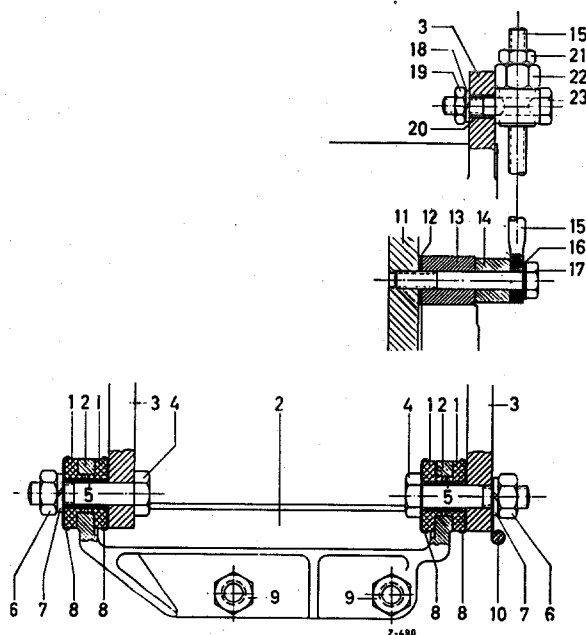

Fig. 01—4/22 a
9. Remove the standard generator support from the crankcase and replace by reinforced support (2), Part No. 121 155 05 35, (Fig. 01—4/22 a).
10. After fitting the rubber washer (1), the cup washer (8) and sleeve (5) to the support (2), insert the new 300 Watt generator from the front and fix with two Hexagon Screws M 10×45 DIN 931—8 G (4) (Fig. 01—4/22 a). Also fit the new ground lead (10), Part No. 181 150 01 32, to the front of the generator.
11. Insert sleeve (20), Part No. 180 155 05 53, in the bore of the upper generator fixing arm and fix the existing clamping piece (23) with Hexagon Screw M 8×42 DIN 931—8 G with lock washer and nut. Now push the clamping piece onto the tensioning screw (15) and screw on the tensioning nut (22) (Fig. 01—4/22 a).
Note: The distance *a*, which the Vee-belt can be pressed out of the straight when moderate pressure is applied from the generator side must measure at least 5 mm and not more than 10 mm (Fig. 01—4/20).